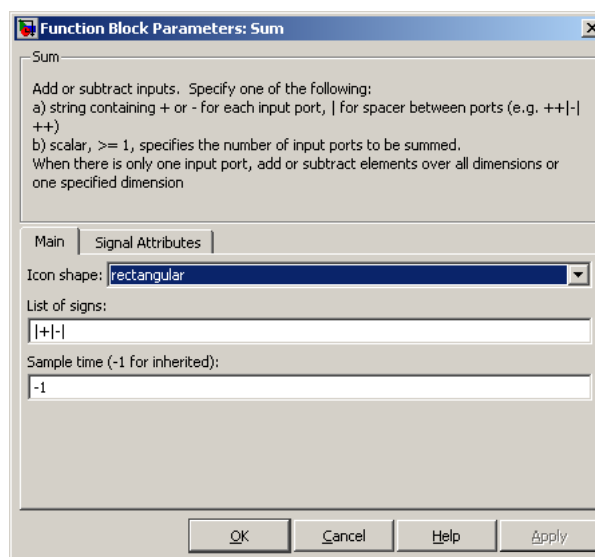

Figure 11: Function Block Parameters for the Summer
16. Double Click on the **Sum** block. We will change the parameters, as shown in Figure 11. Let's choose a rectangular sum block (this works better if there are more inputs), and change the bottom sign to -. Also, we will put in extra space by adding some space, denoted by |. Finally, click **OK**.